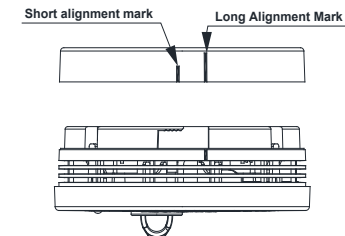

Fig. 3 – Fitting the heat alarm to the base
7. Align the unit with the base rotate it clockwise to lock it into place (see Fig. 3).